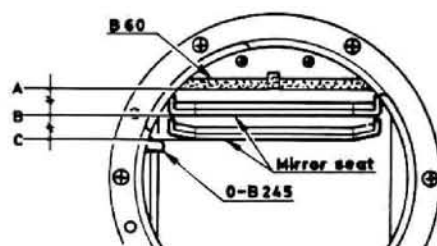

Fig. 15
- The shutter should be released when the bottom side of Mirror seat reaches between B and C as shown in Fig.15.